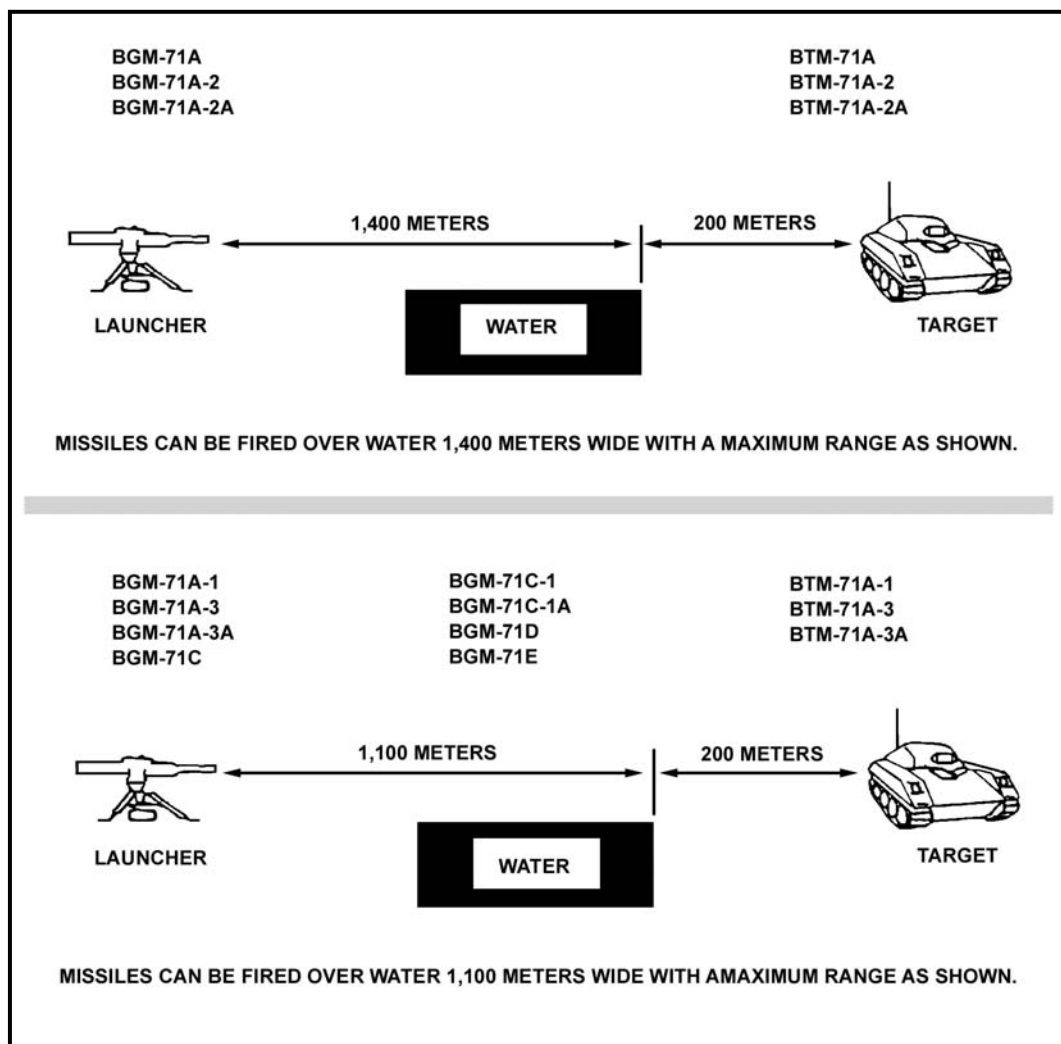

Figure 2-2. Limited TOW missile range.
(2) The various types of TOWs listed may be fired over water to a limited range as shown in Figure 2-2 (TOW launcher and target at water surface level).
(3) To determine the extended range of missiles when firing over water (when TOW launcher or target is above surface level of water), use Table 2-1 (pages 2-6 and 2-7).